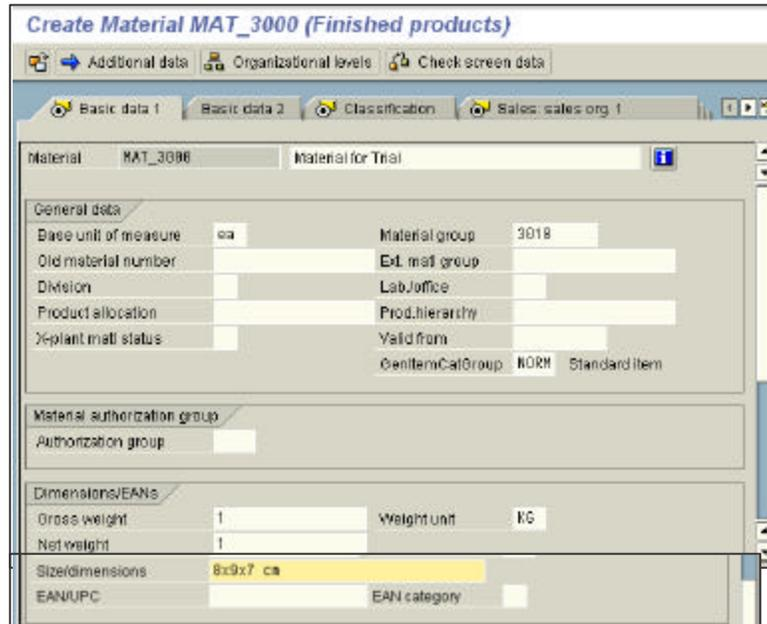

Figure 60: Entering the Basic Data 1
4. In the first screen of the material master creation, under the Basic data 1 tab, enter the **Material** description, the **Base unit of measure**, the **Material group**, **Gross weight**, **Net weight**, **Weight unit** of measure, and the dimensions as shown in Figure 60.